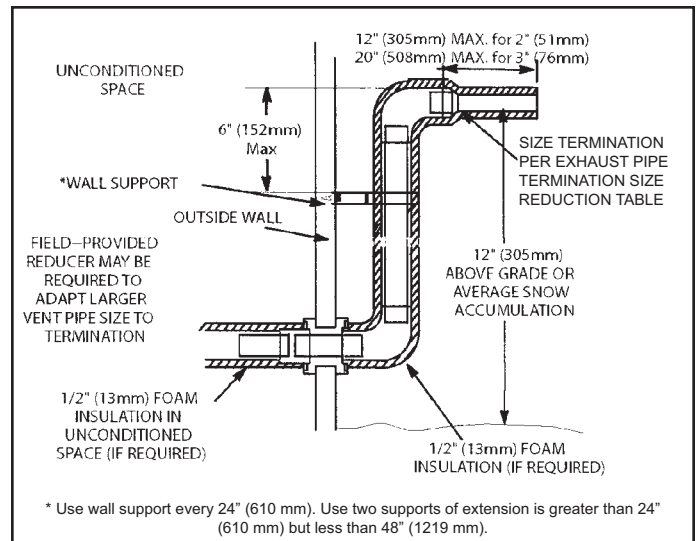

Figure 47. Non-Direct Vent Field Supplied Wall Termination Extermination
3. If exhaust piping must be run up a sidewall to position above snow accumulation or other obstructions, piping must be supported every 24" (610 mm) as shown in Figure 47. When exhaust piping must be run up an outside wall, any reduction in exhaust pipe size must be done after the final elbow.